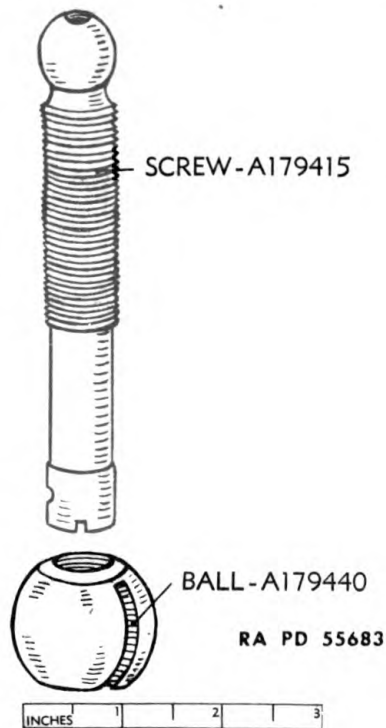

Figure 28—Elevation Screw and Ball
c. Elevation Screw Removal. Turn the elevation screw A179415 with a screwdriver, small enough to clear the threads in the ball, until the threads are disengaged from the ball A179440, removing the elevation screw through the top of the ball (fig. 28).